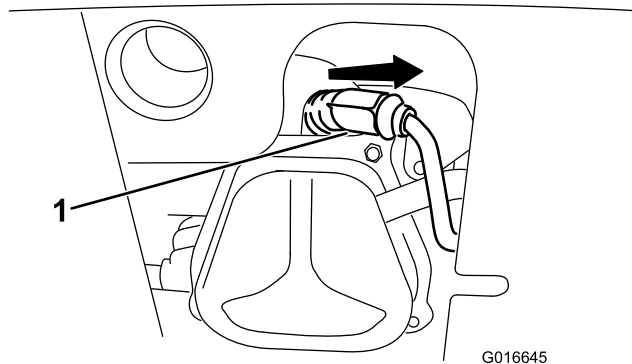

Figure 54
- Remove the boot (Figure 54).